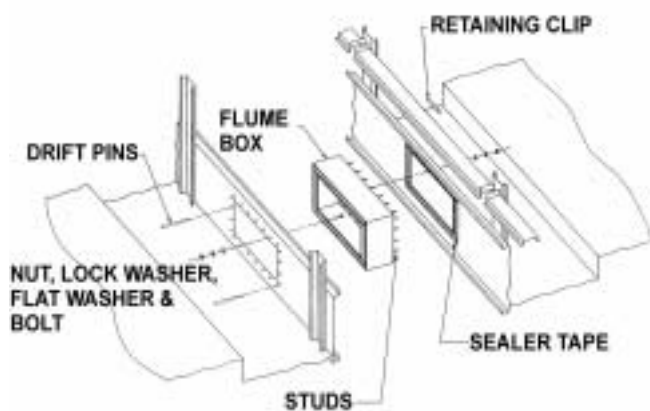

Figure 6 - Flume Assembly.
2. Mating flanges which will make contact with others should be cleaned to remove dirt, grease and moisture. Apply a layer of sealer tape on one side panel centered over the flume box holes as shown in Figure 6. Remove paper backing strip from the sealer tape.
6. Align the bolt holes in the equalizer flume and equalizer opening with drift pins while drawing the second bottom section against the first as shown in Figure 6.
10. Place the drip channel assembly over the adjoining pan section flanges. Turn around the retaining clips and re-install using the same hardware. (See Figures 6 and 7).